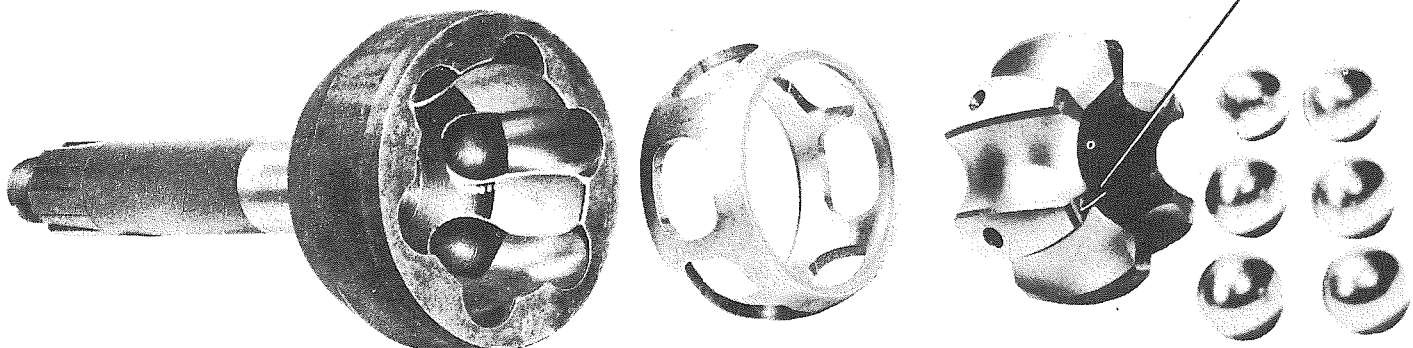

Figure 113 – Bell Joint Assembly (Half-Shaft Assembly)
4. Insert cage and inner race into outer race. Position rectangular openings of cage to clear opposite teeth of outer race (figure 115). Lower cage with inner race into place and turn into position. Inner race must be positioned so stamped arrow on face is exposed as shown in figure 113.